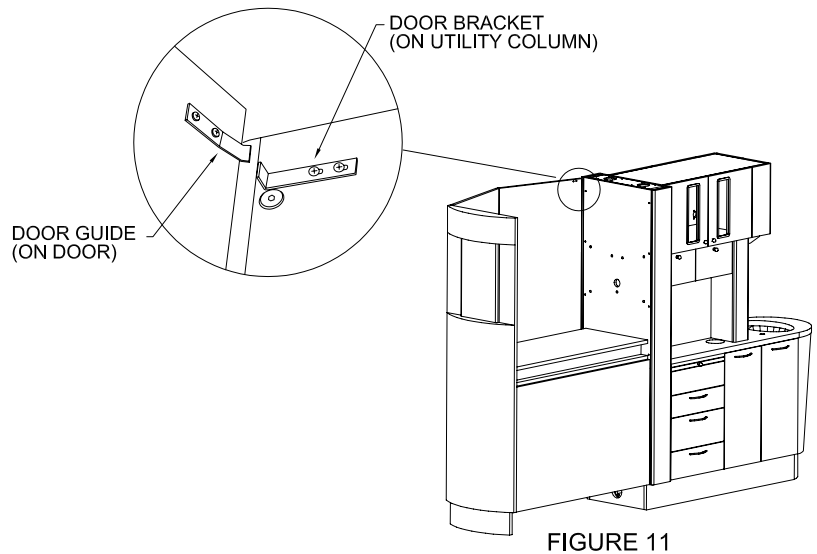

FIGURE 11
Screw in the door guide on the top side of the bi-fold doors with (2) #6 - 5/8" P.H. wood screws. See Figure 11. Repeat for other side.
Screw in the door bracket on the upper corner of the utility column with (2) #6 - 5/8" P.H. wood screws. See Figure 11. Repeat for other side.